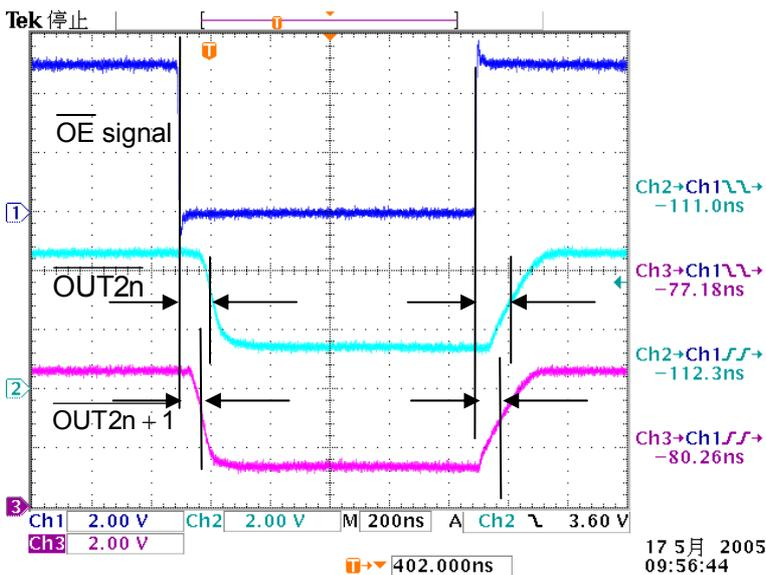

Figure 2. The relationship between the built-in staggered output delay and \overline{OE} signal
*The delay time of output channels is 35ns between even channel $\overline{OUT2n}$ (e.g. $\overline{OUT0}$, $\overline{OUT2}$, $\overline{OUT4}$, etc.) and odd channel $\overline{OUT2n+1}$ (e.g. $\overline{OUT1}$, $\overline{OUT3}$, $\overline{OUT5}$, etc.) The OUT of even channel has a time delay than odd channel. Staggered delay timing diagram shows in the Figure 2.